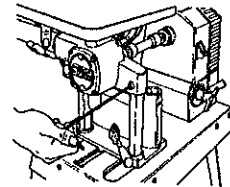

Fig.G-4
8. Loosen the two setscrews holding the Jigsaw's eccentric tubes. (If your Jigsaw does not have eccentric tubes, you must buy them in order to use your Jigsaw with the Power Station. See the back cover of this manual for order information.) See Fig.G-4. The setscrews on the carriage should still be loose, also.